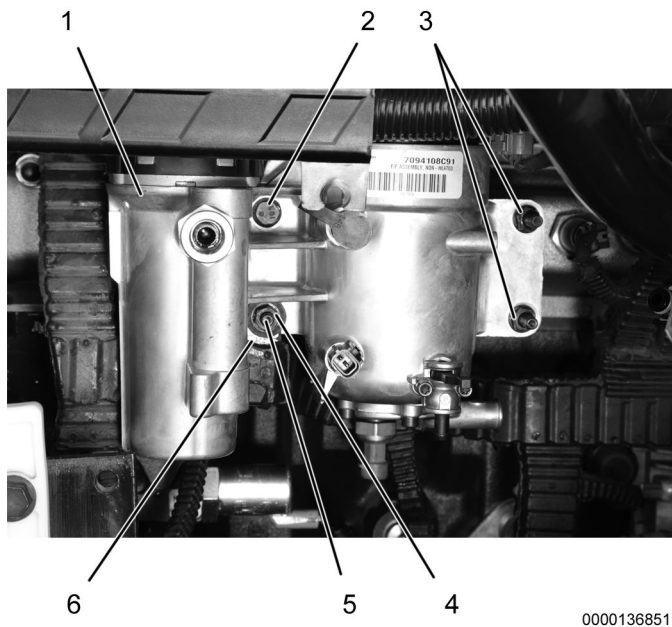

Figure 10. Fuel Filter Assembly.
6. Install fuel filter assembly (Figure 10, Item 1) onto vehicle with three M8 x 75 stud bolts (Figure 10, Items 3 and 5) and M8 x 75 bolt (Figure 10, Item 2) hand tight.
7. Using torque wrench, tighten three M8 x 75 stud bolts (Figure 10, Items 3 and 5) and M8 x 75 bolt (Figure 10, Item 2) to 20 lb-ft (27.1 N·m).
8. Install engine harness (Figure 10, Item 6) onto M8 x 75 stud bolt (Figure 10, Item 5) with M8 nut (Figure 10, Item 4).